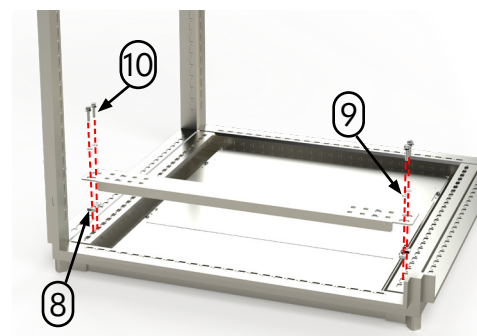

Figure 3
- Insert four cage nuts (Item 8) into the square cutouts of the OKK Frame at the desired positions (Figures 3 & 6).
- Attach each rail to the frame using four M6x16 hex screws (Item 10) and M6 washers (Item 9). See Figure 3.